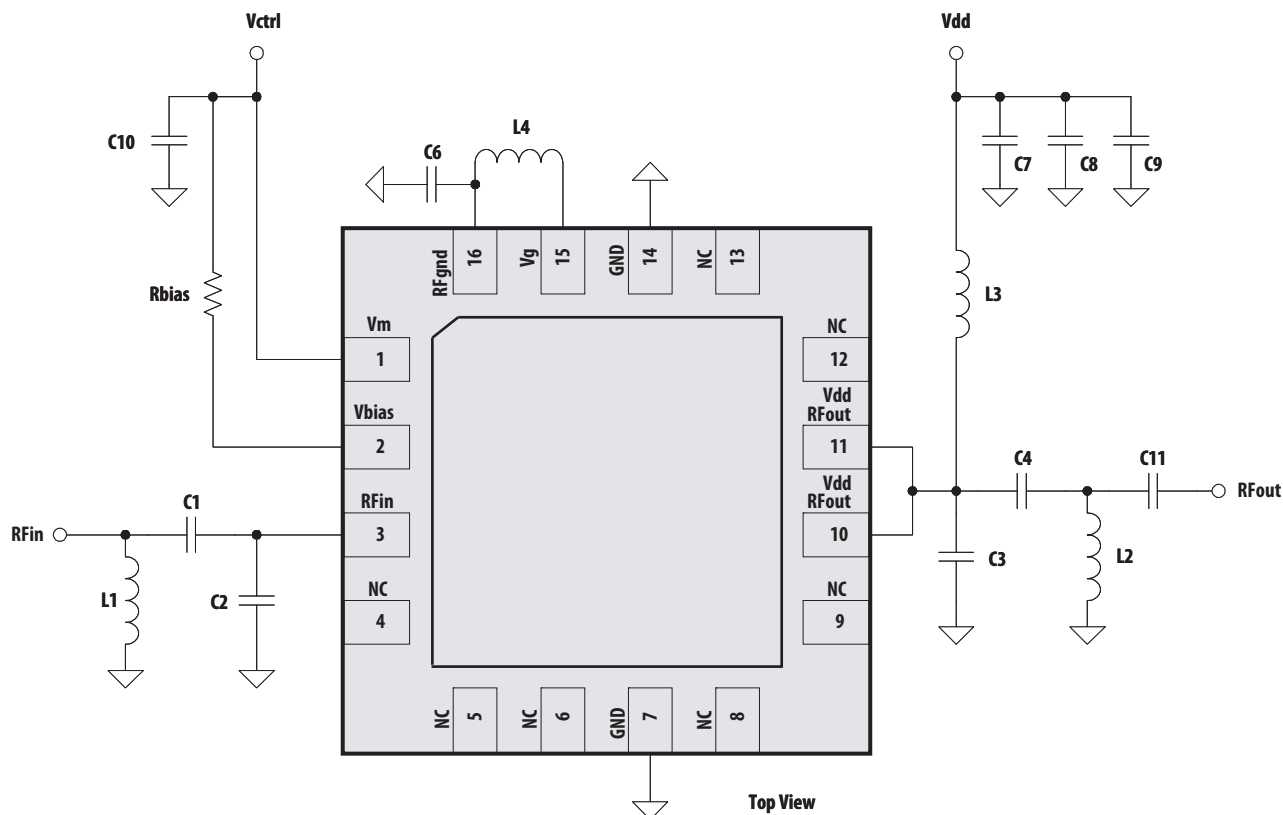

Figure 6. Demo board and application schematic (750MHz to 1GHz)
4. Measurements at 900MHz obtained using demo board described in Figure 6 and 7.